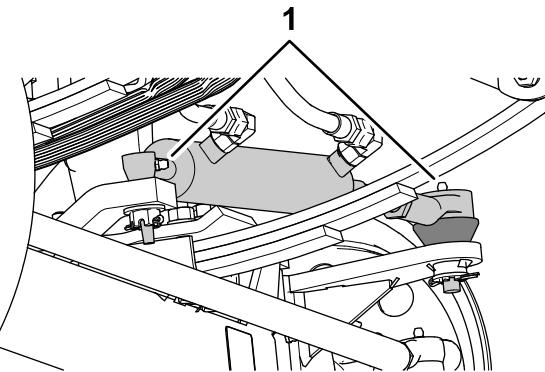
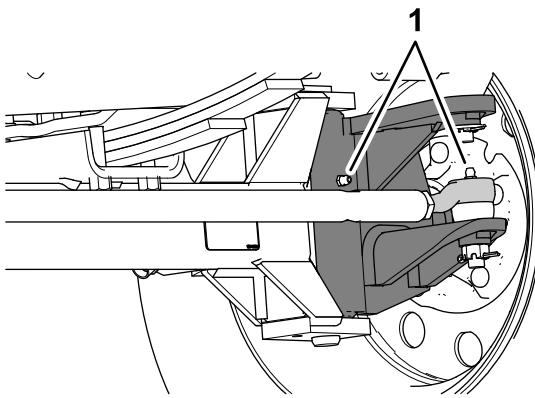

Figure 68
Figure 69
1. Wipe the grease fittings clean (Figure 68 and Figure 69).
2. Pump grease into the grease fittings (Figure 68 and Figure 69).
**Note:** The grease fittings positions are illustrated in Figure 68.